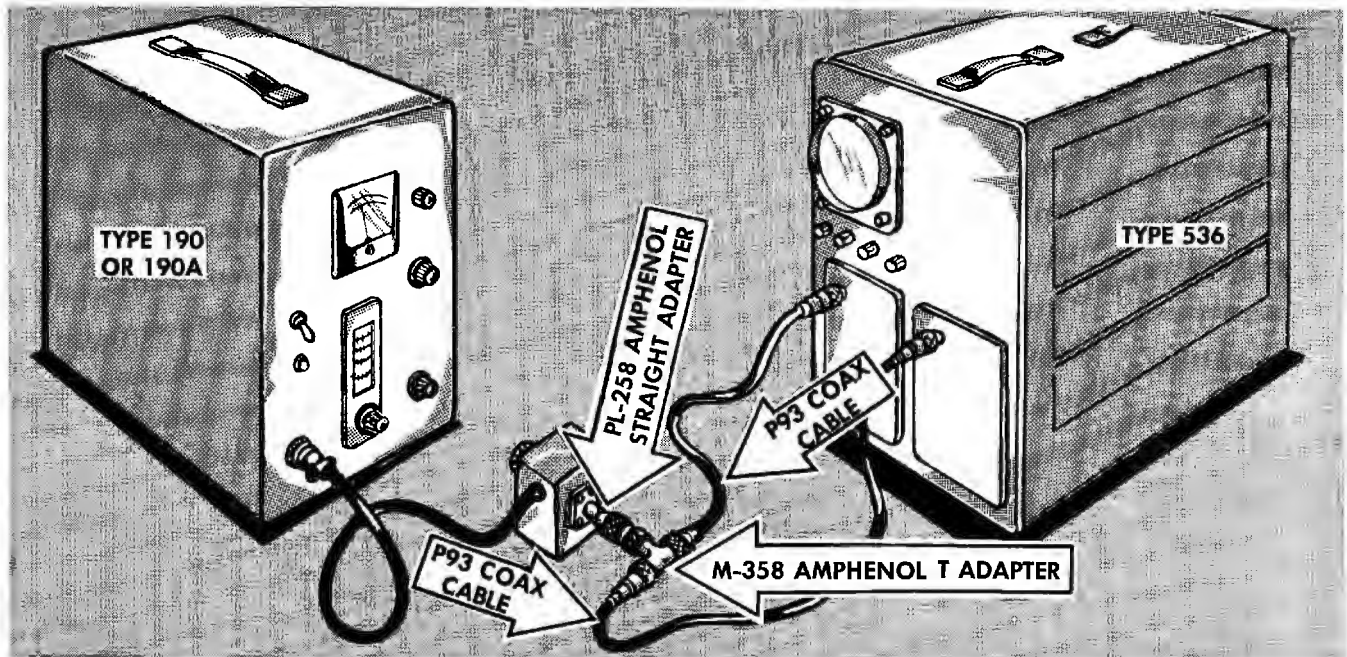

Fig. 6-14. Connecting the Type 190 or 190A Constant-Amplitude Signal Generator to the Type 536.
Install identical Preamplifier plug-in units in both sections of the Type 536, and connect the Type 190 or 190A Constant-Amplitude Signal Generator to the plug-in units in the manner illustrated in Fig. 6-14. Be sure to have equal cable lengths and terminations. Set both plug-in units to their lowest DC range (.005 on the Type H Unit; .05 on all others), and adjust the Signal Generator for an output frequency of 10 Mc. Adjust the OUTPUT AMPLIFIER control for ten divisions of deflection both vertically and horizontally. This should result in a trace extending from the lower left corner of the graticule to the upper right corner, as shown in Fig. 6-15. The trace may either be a closed loop, as shown in Fig. 6-15(A), or an open loop (ellipse) as shown in (B). Rotate the AMPLIFIER PHASING control until the loop is closed; this corresponds to zero degrees phase difference between the two deflection amplifiers. This does not necessarily have to be at 50, the mechanical mid-range of the AMPLIFIER PHASING control. Now, rotate the AMPLIFIER PHASING control and observe the phase shift (opening of the loop) on either side of the zero-phase point. There should be an equal phase shift in either direction. If this is not observed, adjust C254 until an equal loop opening is observed.